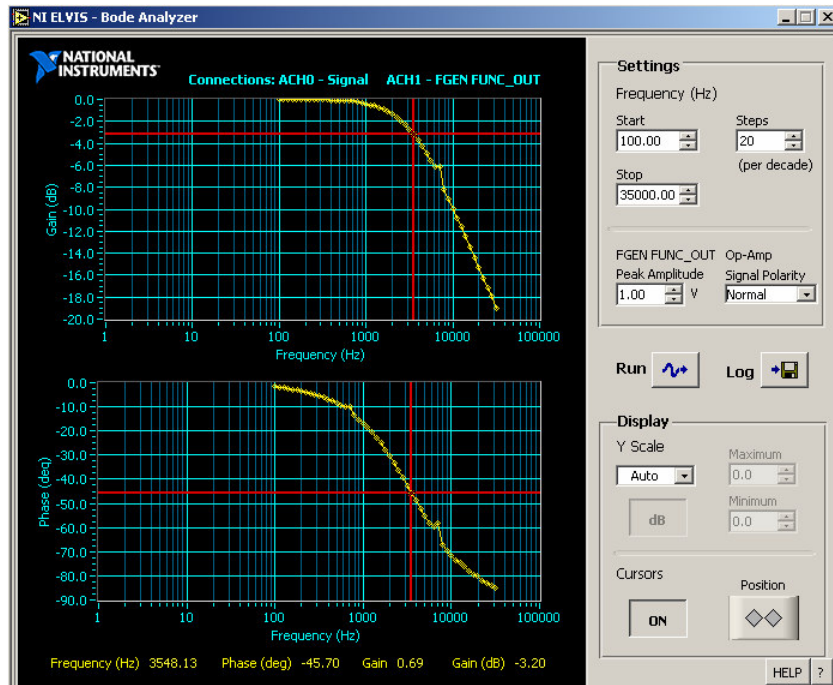

Fig 16. Bode Analyzer output and measuring the 3dB frequency using cursors.
7. Once the analysis is complete, the output should appear as shown in figure 16.
8. In the figure 16, cursor has been placed to measure the -3dB frequency. This can be achieved by clicking on the Cursors button to "ON" and dragging the cursor using the left mouse button on the plot to the desired position. The cursor can also be shifted to the desired position using the two diamond shaped buttons in the Cursor Position.